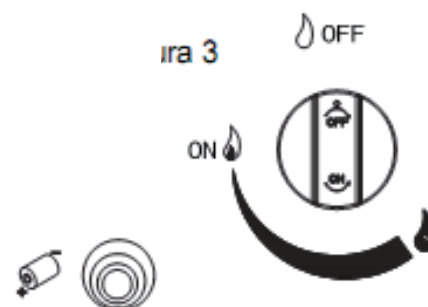

Figure 3
2. Make sure control knobs are in the “ OFF” position (Figure 3).
3. Control knob must be in the " OFF" position (Figure 3).